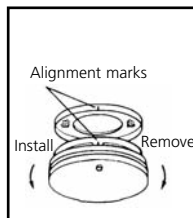

FIGURE 8
6. Alignment marks are provided on the edge of the trim plate and the alarm. After installing the mounting plate, place the alarm on the mounting plate with the alignment marks lined up. Twist the alarm in the direction indicated by the "ON" arrow on the alarm cover (see figure 8) until it locks in place.
To replace the battery, remove the alarm from the mounting plate by rotating the alarm in the direction of the "OFF" arrow on the cover (see figure 8).